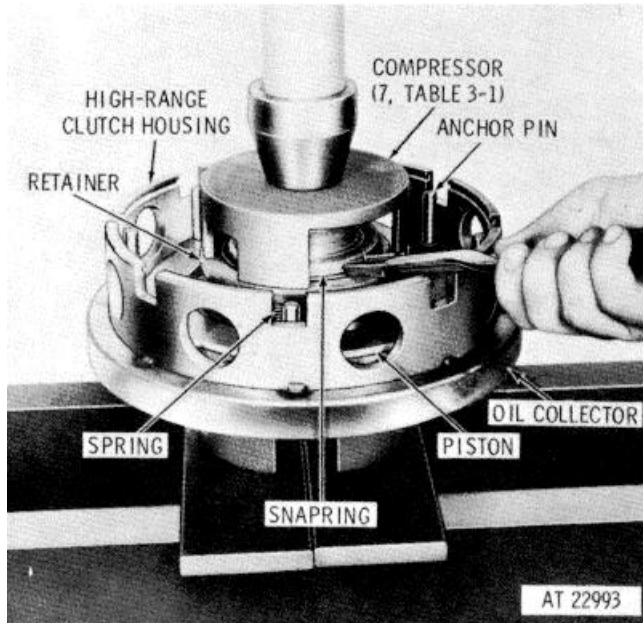

Figure 7-6. Removing (or installing) high-range clutch piston return spring retainer retaining ring.
b. Remove high-range clutch back plate (11).
c. Remove five internal-splined (10) and five external-tanged (9) high-range clutch disks.
d. Using compressor 7, table 3-1, against spring retainer (14, FO-4), compress the spring retainer and remove retaining ring (15). Refer to figure 7-6.
i. Remove sealring (8, FO-4) from hub of housing (2).
k. Do not remove two balls (3) from housing (2) except for replacement.
l. Do not remove the oil collector from the housing (fig. 7-6). If the ring is damaged, the collector and housing (2, FO-4) will have to be replaced as an assembly.
h. Using a press and compressor (7, table 3-1), compress the retainer and secure it with retainer ring (15, FO-4). Refer to figure 7-6.
i. After soaking internal-splined clutch disks (10, FO-4) in the same oil as used in the transmission, alternately install five external-tanged (9) and five